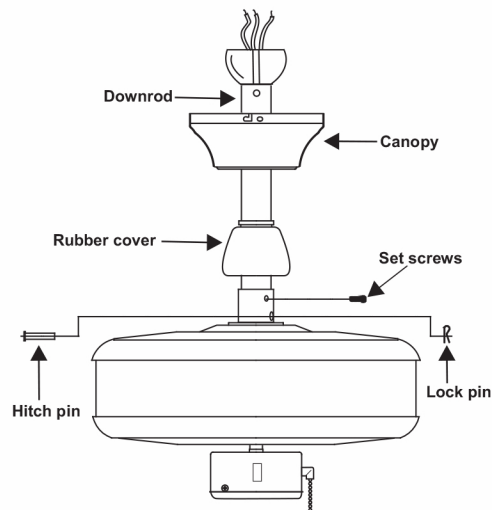

Figure 6
Step 4. Route wires exiting from the top of the fan motor through the rubber cover and canopy and then through the ball/downrod. (Fig. 6)
Step 5. Align the holes at the bottom of the downrod with the holes in the collar on top of the motor housing. Carefully insert the hitch pin through the holes in the collar and downrod. Be careful not to jam the pin against the wiring inside the downrod. Insert the locking pin through the hole near the end of the hitch pin until it snaps into its locked position. (Fig. 6)